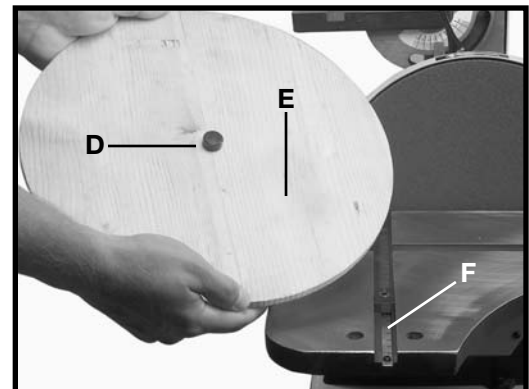
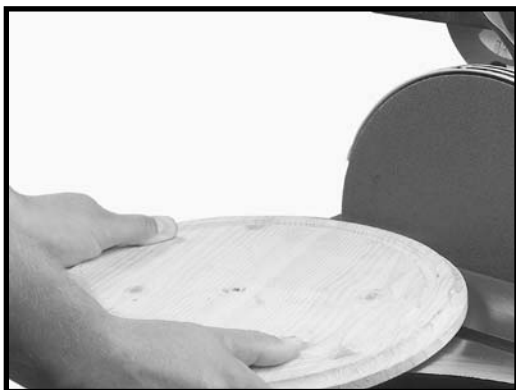

Fig. 38
Fig. 39
3. Insert the guide pin (D) Fig. 38 into the center of the oversized rough cut circle (E).
4. Insert the guide pin (D) Fig. 38 into the slot (F) of the disc sander table. Rotate the workpiece (E) Fig. 39. continuously while sanding. A correctly sized circle is sanded when the guide pin (D) Fig.38 contacts the stop block, (A).